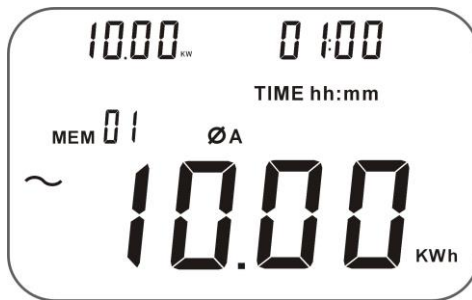

figure 23
4. Press **SELECT** to choose one of the three phases (**1, 2, 3**), see figure 23.